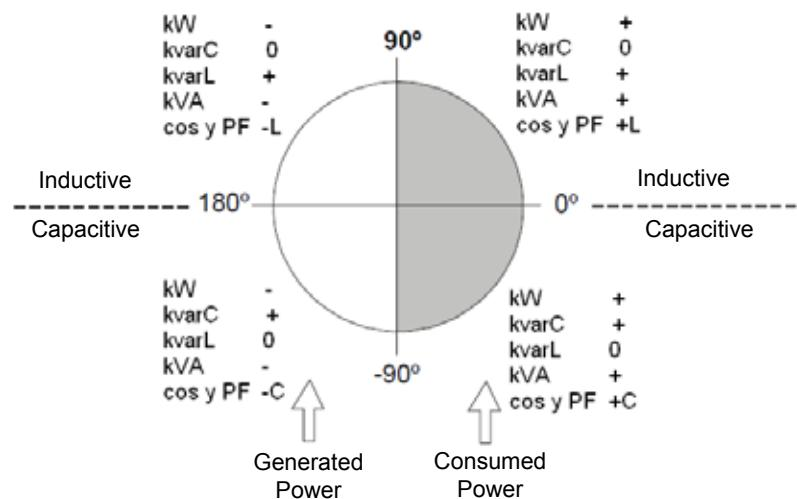

Figure 17: Diagram of the four measurement and compensation quadrants.
(1) The **cos $\phi$**  and **Power factor** parameters are accompanied by the **kW sign** and **kva sign** parameters, which are used to determine the quadrant in which each phase is being measured. See **Figure 17**.